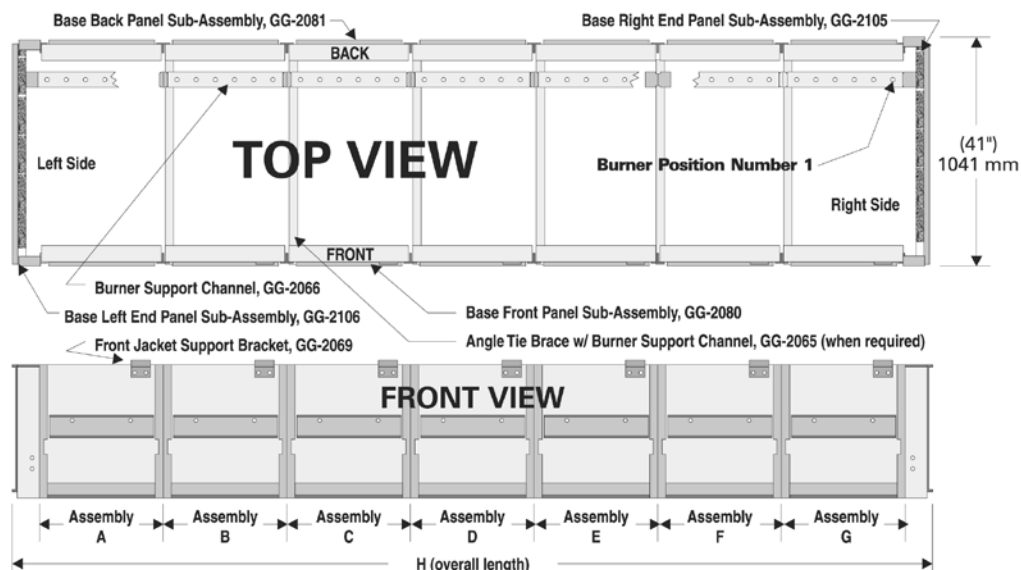

Figure 2.1: Boiler Base Assembly
7. Bolt remaining Front and Back Panels together using 5/16"-18 x 1" (25 mm) long cap screws and hex head nuts. See Table 2.1 for panels required. Place the panels in the positions shown in the table and Figure 2.1.
9. Set the Burner Support Channels in place as shown in Figure 2.1.
**Table 2.2: Burner Cartons and Pilot Burner Locations (See Figure 2.1)**